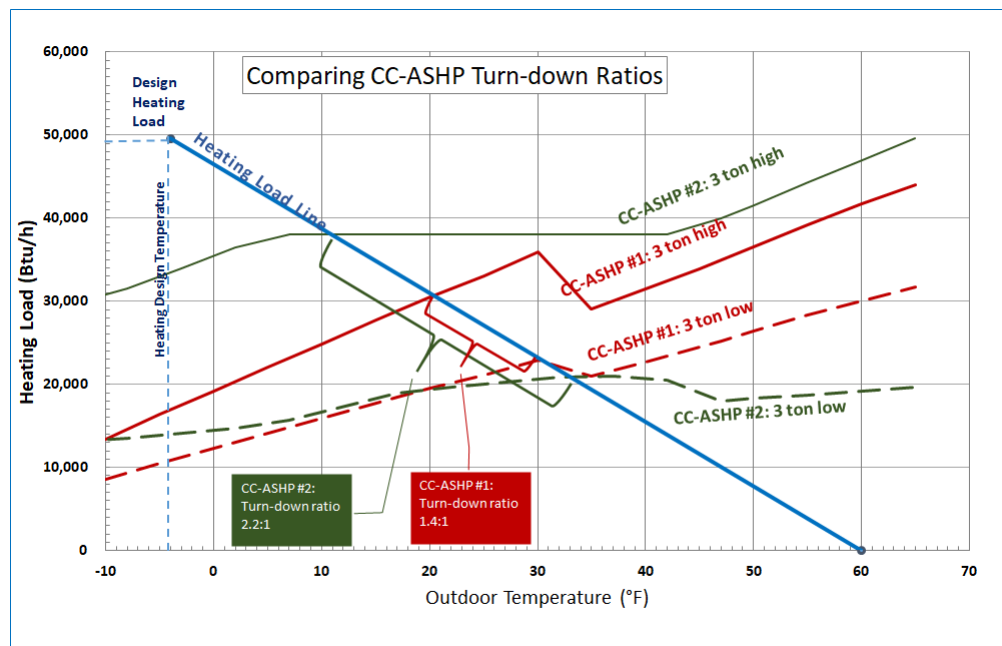

Figure 20: Comparing CC-ASHP Turn-down Ratios
When selecting two-stage, multi-stage and/or variable capacity equipment, selecting a system with the highest turn-down ratio will be important to ensuring client satisfaction. This is particularly important in relation to **Sizing Options 4B, 4C and 4D**. For example, Figure 20 depicts two variable capacity CC-ASHPs with maximum (high stage) and minimum (low stage) capacity curves. These curves intersect the heating load line of the home at two points (the high stage capacity curve intersects at a point higher on the heating load line and the low stage capacity curve intersects at a point lower on the heating load line). The duration of the heating load line that is between these two intersecting points indicates the amount of the heating load that the ASHP will operate at without cycling. As cycling degrades performance and results in comfort swings within the home, the designer's objective should be to minimize cycling by selecting equipment with a high turn-down ratio. In Figure 20, CC-ASHP #2 has a turn-down ratio of 2.2:1 and will operate without cycling between outdoor temperatures of 12°F (-11°C) and 34°F (1°C), while CC-ASHP#1 has a turn-down ratio of 1.4:1 and will operate without cycling between outdoor temperatures of 20°F (-7°C) and 30°F (-1°C). CC-ASHP#2 will cycle much less often for this heating load.
- Data from the on-line equipment databases and/or extended performance data from the manufacturer is used to guide the development of the ASHP performance curve as illustrated in Figure 20;